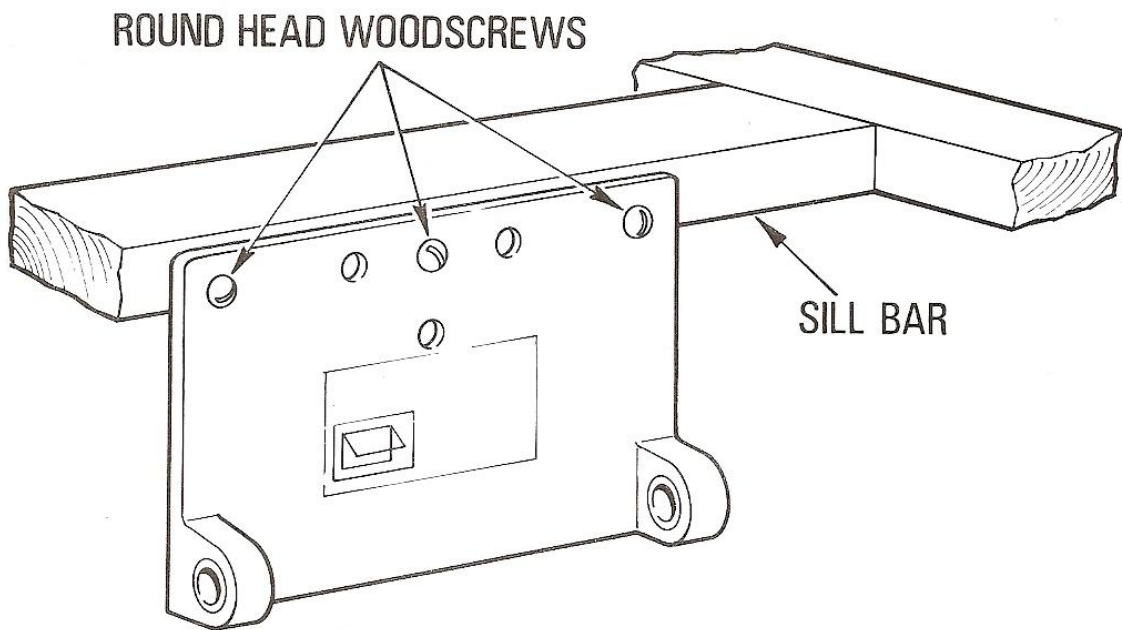

Fig.8
3. Fasten the flat bracket to the cill bar using three wood screws from the screw pack. **See Fig 8.**